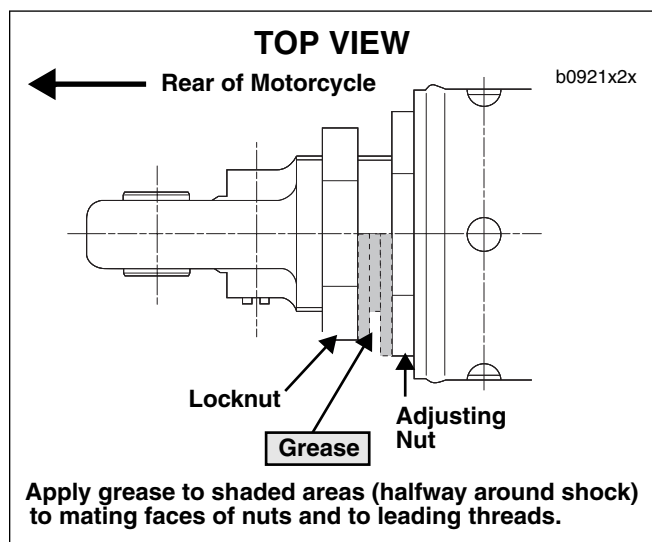

Figure 1. Locknut Tightening Procedure
3. See Figure 1. Apply wheel bearing grease halfway around the shock (180 degrees) to the mating faces of the locknut and adjuster nut and the first few threads on the aluminum body leading to the adjuster nut.